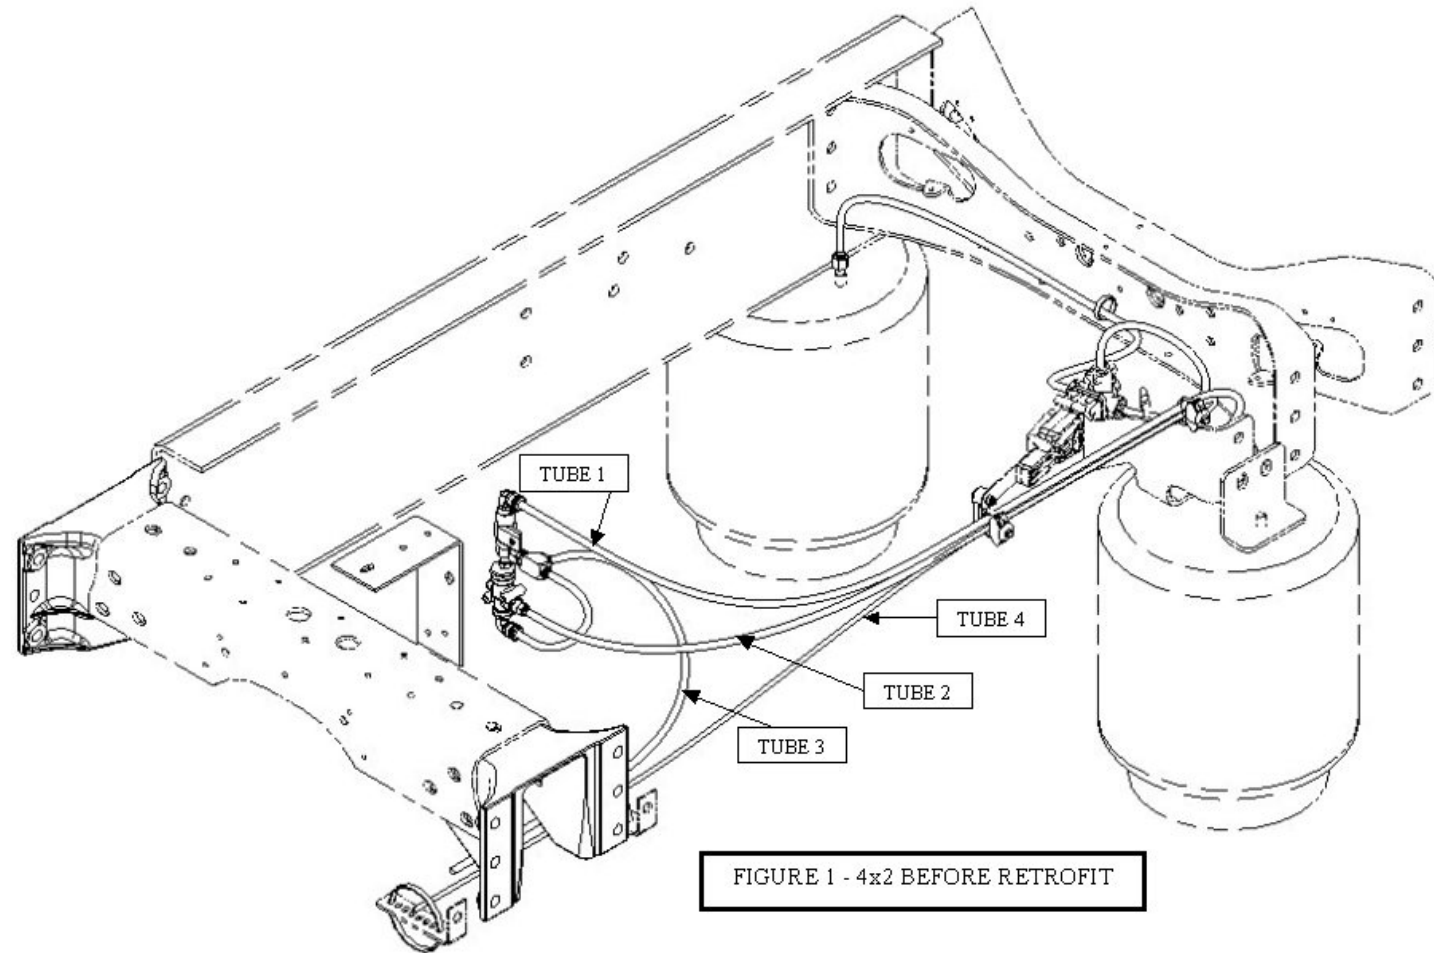
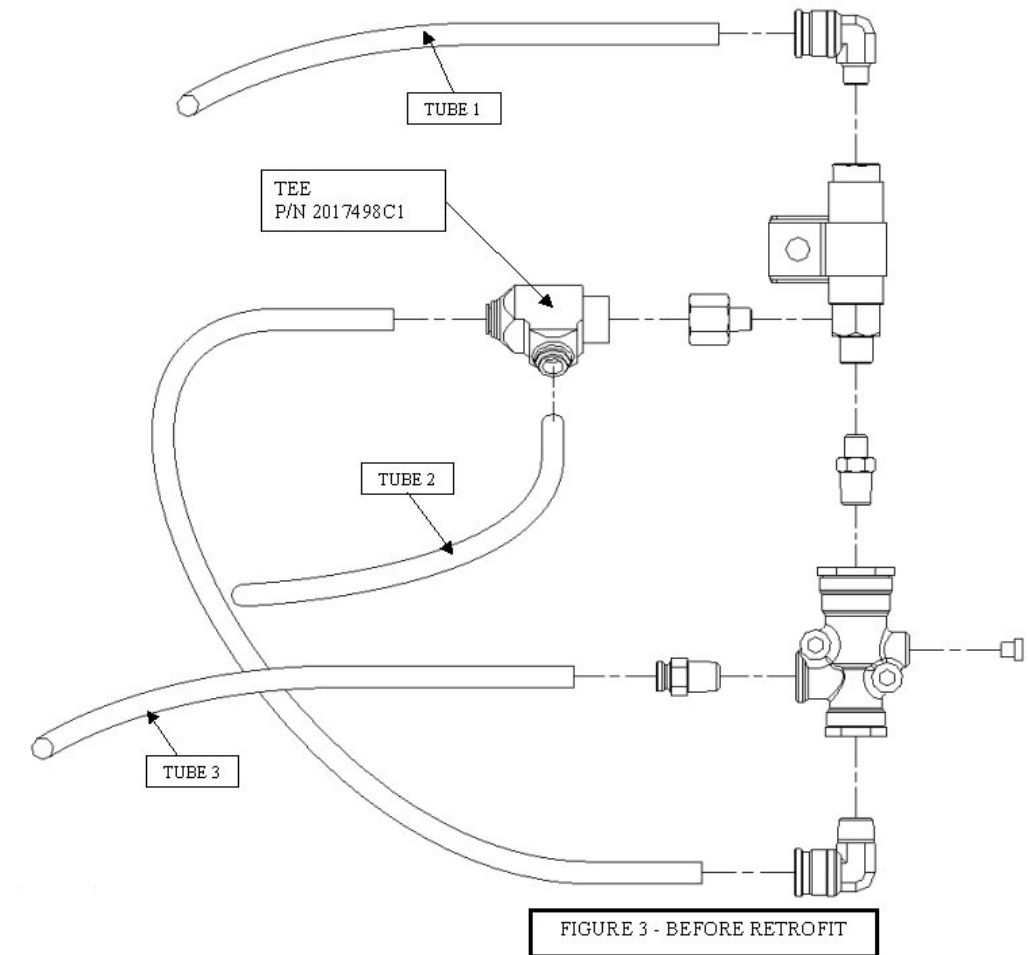

FIGURE 1 - 4x2 BEFORE RETROFIT
FIGURE 3 - BEFORE RETROFIT
- (2) Remove the solenoid valve/SV-1 assembly from the chassis (see Figure 1), disconnecting all air lines (see Figure 3) as well as the one electrical connection, lay the material aside. Remove tube 1 from chassis and discard.
- (3) Remove the 2017498C1 “Tee” fitting located on the side of the solenoid valve (see Figure 3) that was just removed from the chassis. Install into port “B” of the new Hadley Solenoid Dump Valve (see Figure 5).